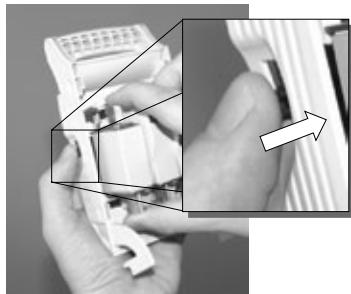
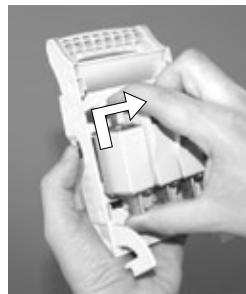

Figure 19
Figure 20
- Press the release button for locking of fuse links (Figure 19) and then pull out a fuse link from a fuse holder (Figure 20).
- Press the release button for locking of fuse links (acc. to chapter 4.2.) (Figure 19, 20);